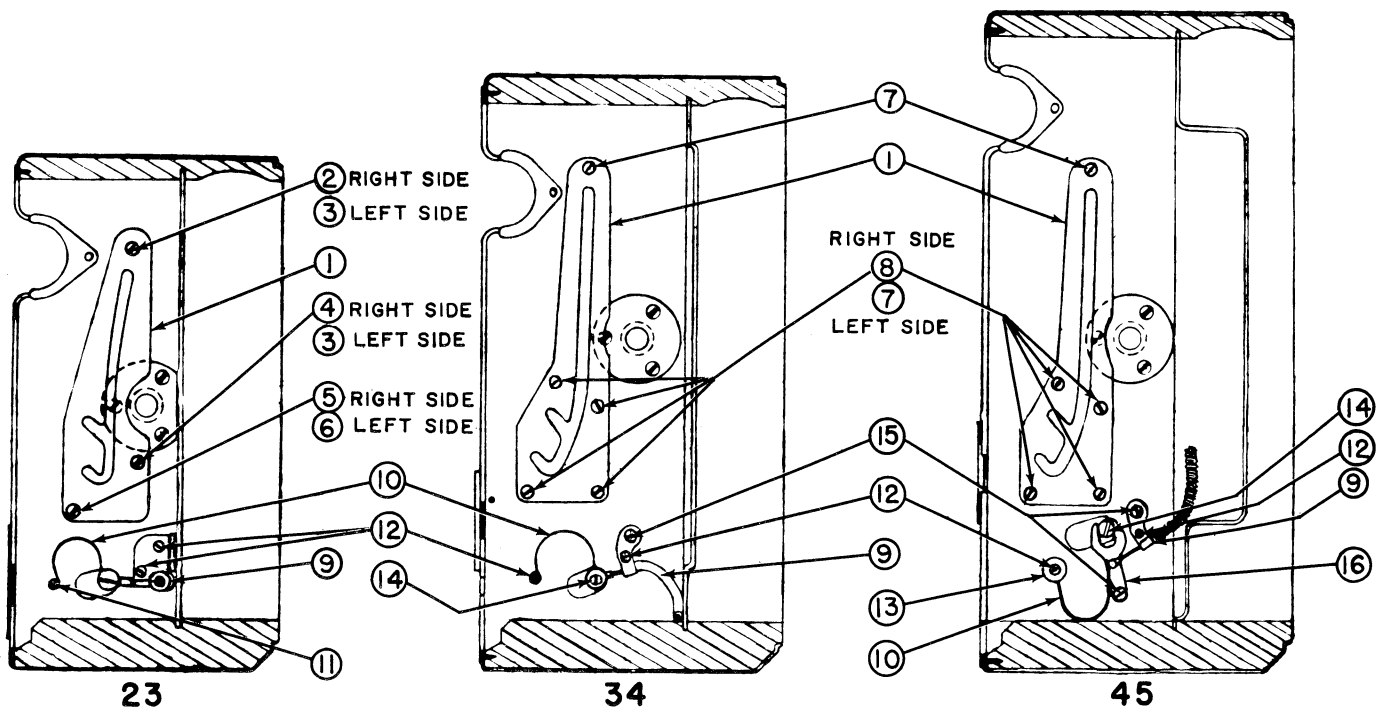

Figure 11. Right Bed Brace Plate and Cable Release Mounting
7. Cable Release Replacement. Attach the cable release assembly (4) as follows:
(a) On "23" cameras: Attach the cable mounting clip with two wood screws (12). Place the large loop end of the spring (10), as shown in figure 11, over the stud of the body release lever, which extends inside the case, and retain by securing the end of the cable to the stud with machine screw (14). Secure the small loop end of spring (10) to camera body with wood screw (11).
(b) On "34" cameras: Follow the same procedure as for the "23" camera. Refer to illustration in figure 11.
(c) On "45" cameras: Attach the cable mounting clip with wood screws (12 and 15). Position the fork of the cable release lever (16) around the stud of the body release lever, which extended inside the case, and assemble the lever mounting screw (15) at the bottom of the cable release lever. Assemble the special block screw (14) to secure the lever fork in position with the body release lever stud. Assemble the washer (13) through the wood screw (12) and anchor the large loop end of the spring (10 as shown in figure 11.
(b) Remove the right and left bed brace plates (1, figure 11) that are secured by screws as illustrated in figure 11.
(c) On "23" cameras: Attach the left bed brace plate (1, figure 11) with one wood screw (3) at the top, screw (3) at the side and screw (6) at the bottom. Attach the right bed brace plate with one wood screw (2) at the top and one wood screw (4) at the side and screw (5) at the bottom.